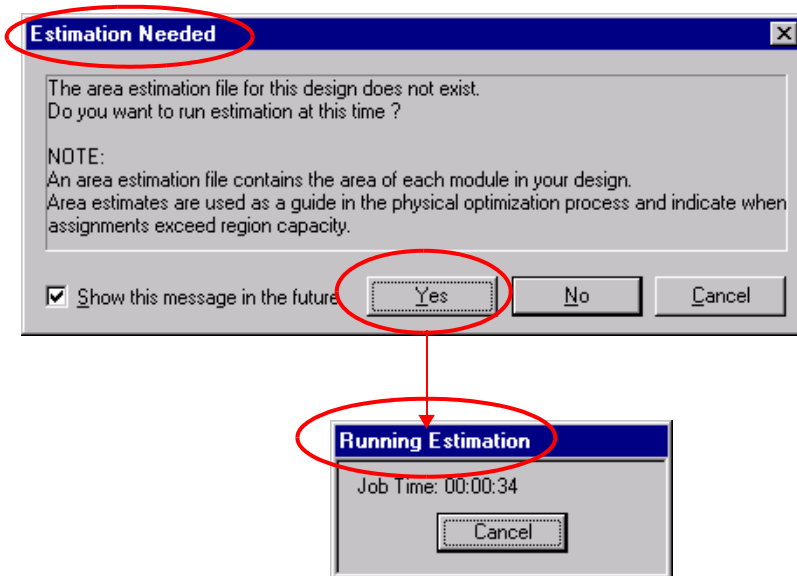

Figure 7-1: Estimation Needed and Running Estimation Dialog Boxes
- If you click Yes, the Running Estimation dialog pops up in the upper-left corner of the window displaying the runtime of the job. Once estimation is completed, the Design Planner opens. See Figure 7-1 on page 7-3.